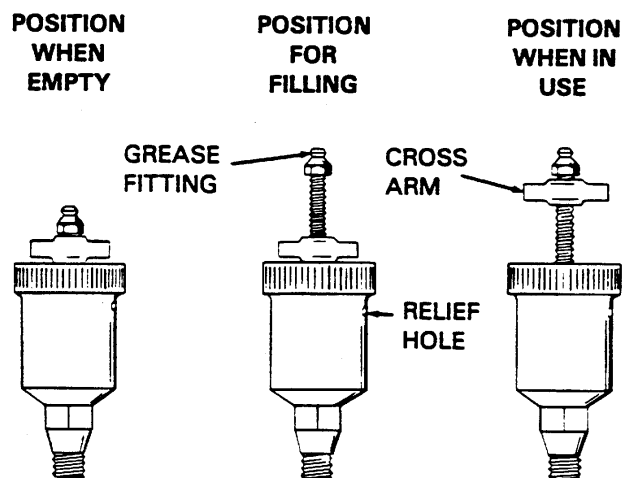

Figure 3. Automatic Lubricating Grease Cup
Before attempting to remove the impeller (2), turn the cross arm on the automatic lubricating grease cup (14) clockwise until it rests against the cover (see Figure 3). This will prevent the grease in the cup from escaping when the impeller is removed.
Fill the grease cup (14) through the grease fitting with No. 2 lithium base grease until grease escapes from the relief hole. Turn the grease cup arm counterclockwise until it is at the top of the stem; this will release the spring to apply grease to the seal (see Figure 3).